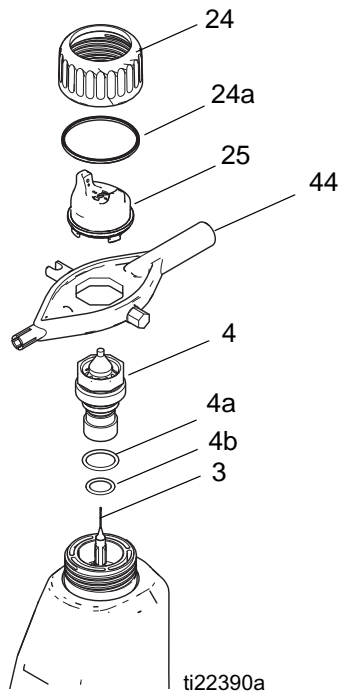

FIG. 28. Air Cap/Nozzle Replacement
2. Remove the retaining ring (24) and air cap (25). See FIGURE 28.
3. Remove the fluid nozzle (4) assembly with the multi-tool (44).